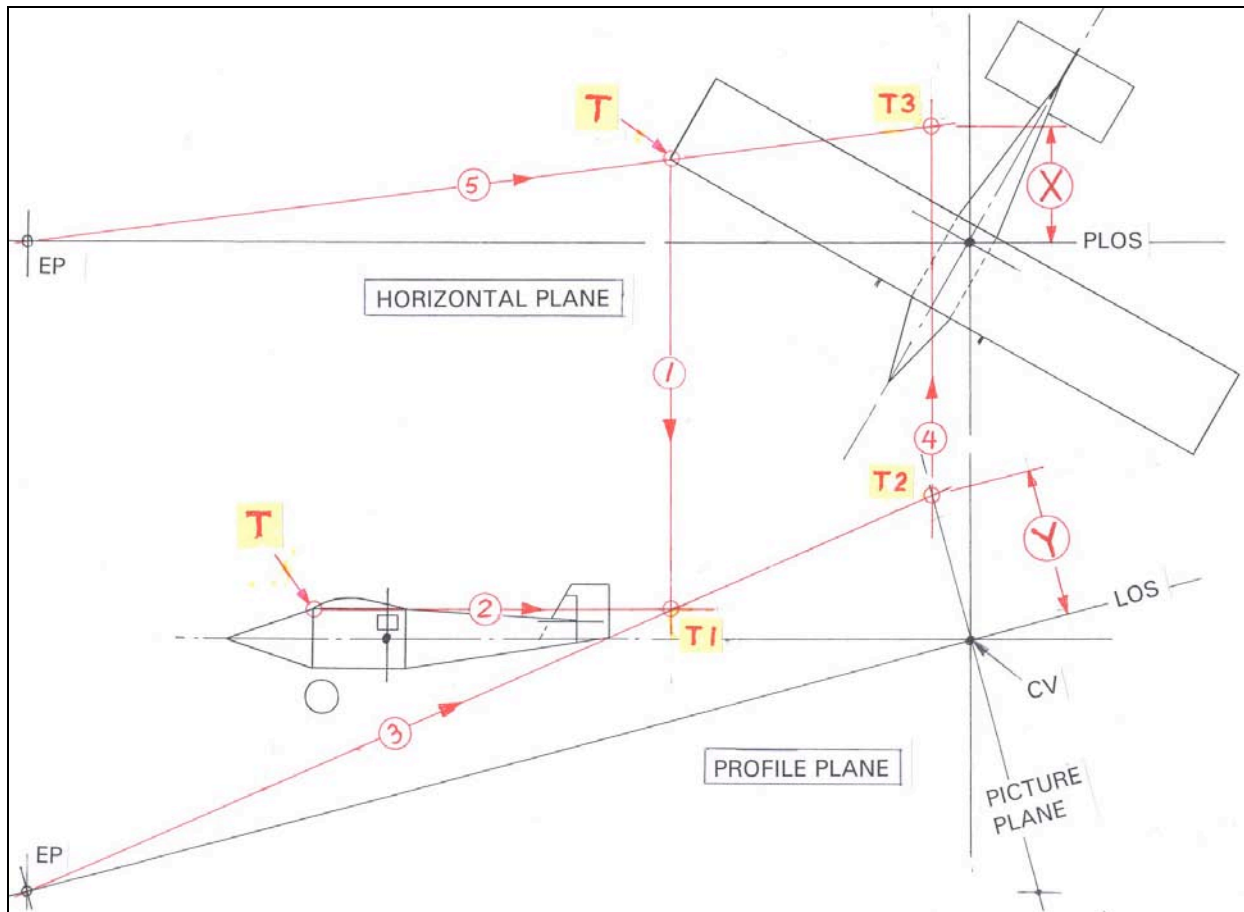

Fig. 3 — Illustrating the five steps for translating a typical point (**T**) from the Plan and Side views into its **X Y** picture plane coordinates.
The WORKSHEET – The procedures for setting up the worksheet (**Fig. 2**) and projecting plot points to the picture plane (**Fig. 3**) are described in the following steps. The worksheet consists of two contiguous areas, the **Horizontal Plane** and the **Profile Plane**.
This completes the setup. The worksheet is now ready for the perspective projection; see topic **Making the Projection**, and **Fig. 3**.
MAKING THE PROJECTION – The straightforward 6-step transition of point **T** from the Plan and Side views on the worksheet to its perspective coordinates **X** and **Y** is shown in **Fig. 3**. The transfer of **X** and **Y** to the picture plane is shown in **Fig. 4**. This procedure is typical for all points required to complete the projection.
- The Baseline (BL) is parallel to the Plan View Line of Sight (PLOS.)
- The Center of Vision (CV) on both BL and PLOS are in vertical alignment perpendicular to PLOS.
- The Picture Plane (PP) has a **constant right angle relationship** with the Line of Sight (LOS), regardless of the Elevation angle.
- The Viewing Distance (Dist) is measured between the Eye Position (EP) and the Center of Vision (CV) on the Line of sight (LOS.)
- The Eye Position (EP) on PLOS is in vertical alignment with EP on LOS.
- In the 6-steps described in MAKING THE PROJECTION, lines were used to show the origin, direction and termination points of lines 1 through 5. Obviously, if you were to draw those lines for every point required to make the perspective (ref: Fig. 3) the layout would soon become hopelessly cluttered. Actually, tick marks (+) at points T1, T2 and T3 will suffice.
- The direction of transfer of points between the Horizontal Plane and the Profile plane via lines (1) and (4) must be parallel to the vertical line. Similarly, points transferred from the Side and/or Front view via line (2) must be parallel to the base line. This is usually done using the “Triangle and T-Square” method. A less awkward method is to use a ruler or dividers to measure the distance of the points T and T2 from the vertical line and transfer those dimensions to points T1 and T3. Similarly, measure the distance of point T in the Side and/or Front View from the baseline for transfer to point T1.